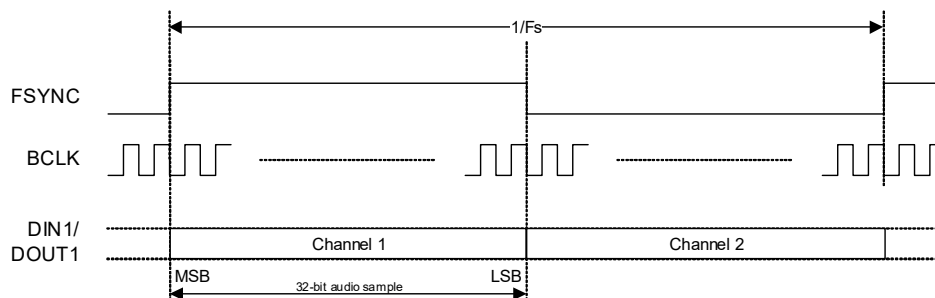

Figure 4-14. Left-Justified Data Format
- If Left-Justified data format is selected, the ASP supports audio channels 1–2 as shown in Fig. 4-14. The minimum BCLK rate is 64 fs (where fs is the sample rate). A higher BCLK frequency can be used, resulting in unused BCLK cycles between the LSB of one sample and the MSB of the next.